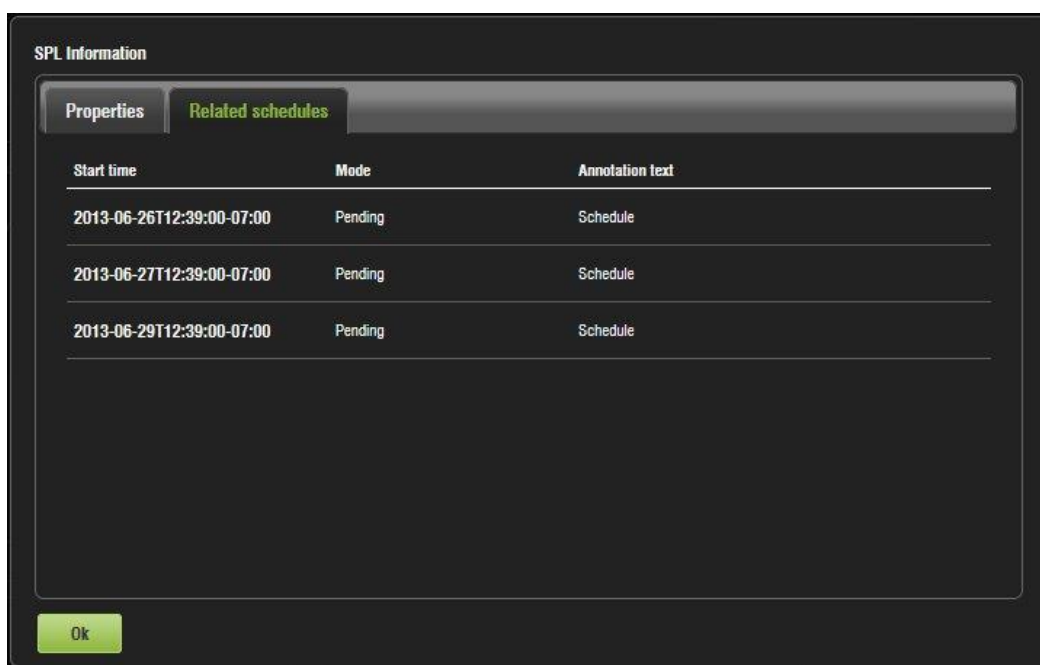

Figure 291: Related Schedules Window
- The second tab of the SPL information window displays the related schedules (Figure 291).